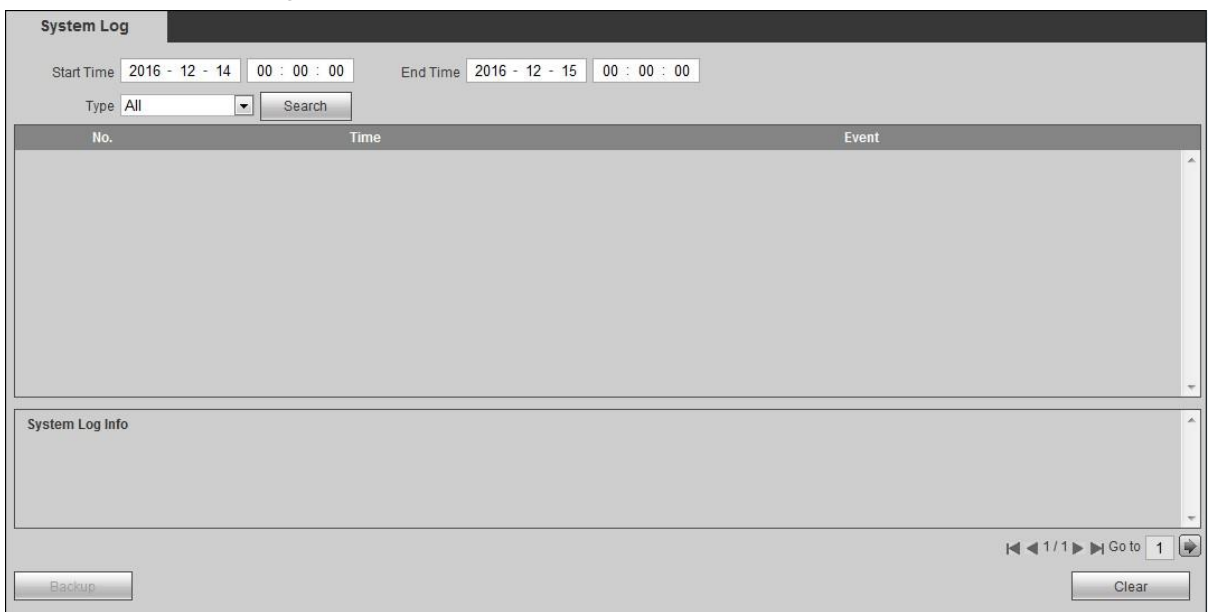

Figure 4-119
Step 1 Select "Info > Device Info > System Log". The system displays "System Log" interface, as shown in Figure 4-119.